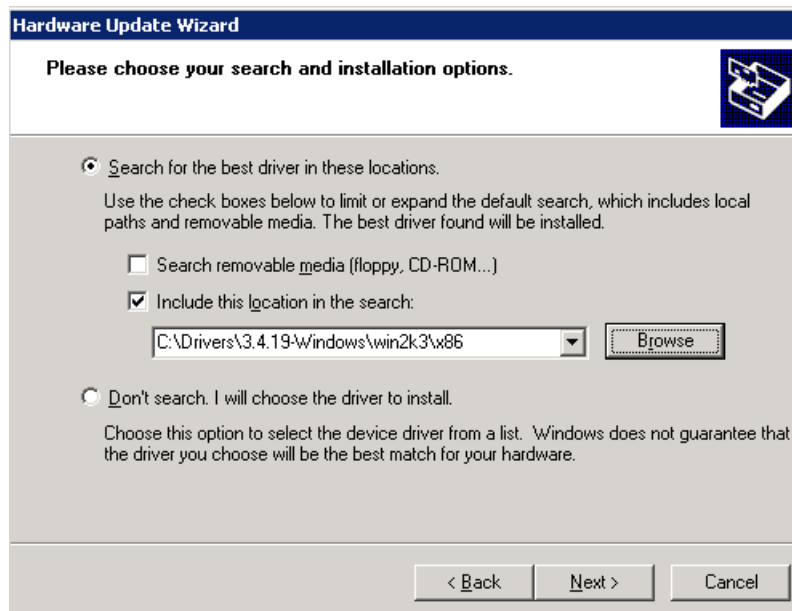

Figure 5-7 Search and installation options
4. On the next window (Figure 5-7), browse to the directory that contains the drivers or to the installation CD. Note that there may be two different versions of the driver, one in a subdirectory called Win2K3 and one in a subdirectory called SNP. The SNP (Scalable Networking Pack) version of the driver is required to use the TCP/IP Offload functionality of the NetXen card. This version of the driver may require a license key. In addition, in each of the subdirectories mentioned above there will be x64 and x86 directories, for 64- and 32-bit versions of Windows 2003. Click **Next** to continue once you have browsed to the directory containing the appropriate version of the driver.